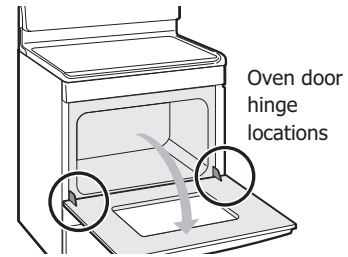

Figure 38: Door hinge location
3. Fully open the oven door, horizontal with floor (Figure 38).